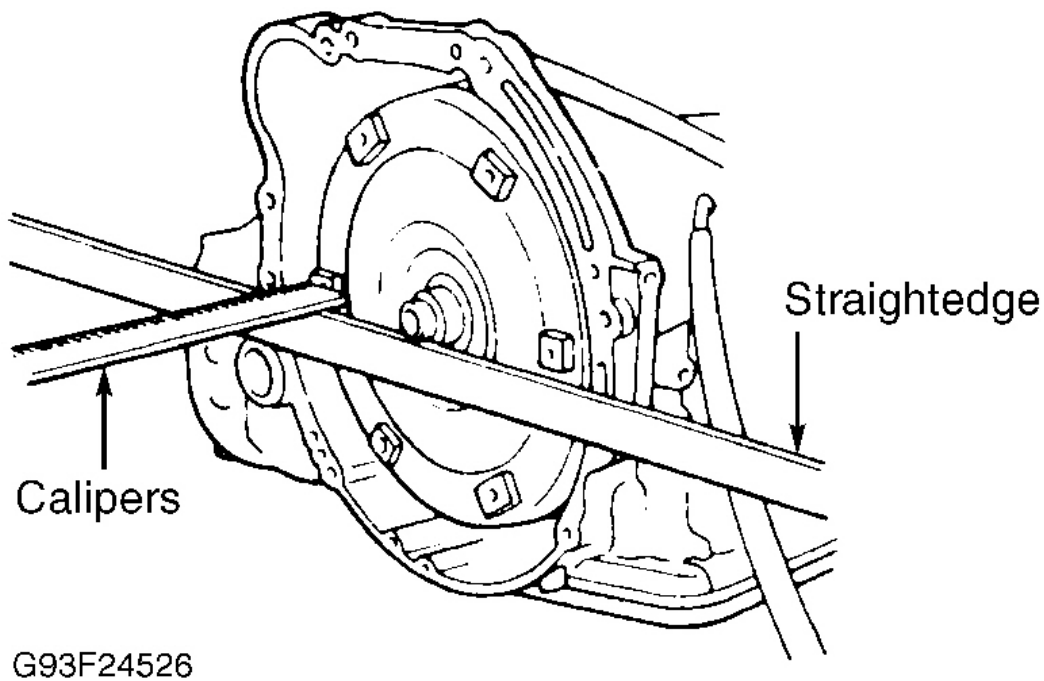

Fig. 43: Measuring Torque Converter Depth
25. Install torque converter on transaxle. Using a straightedge and calipers, measure torque converter installed depth. Distance should be .528" (13.40 mm) for Corolla or .906" (23.00 mm) for Prizm. See **Fig. 43**.